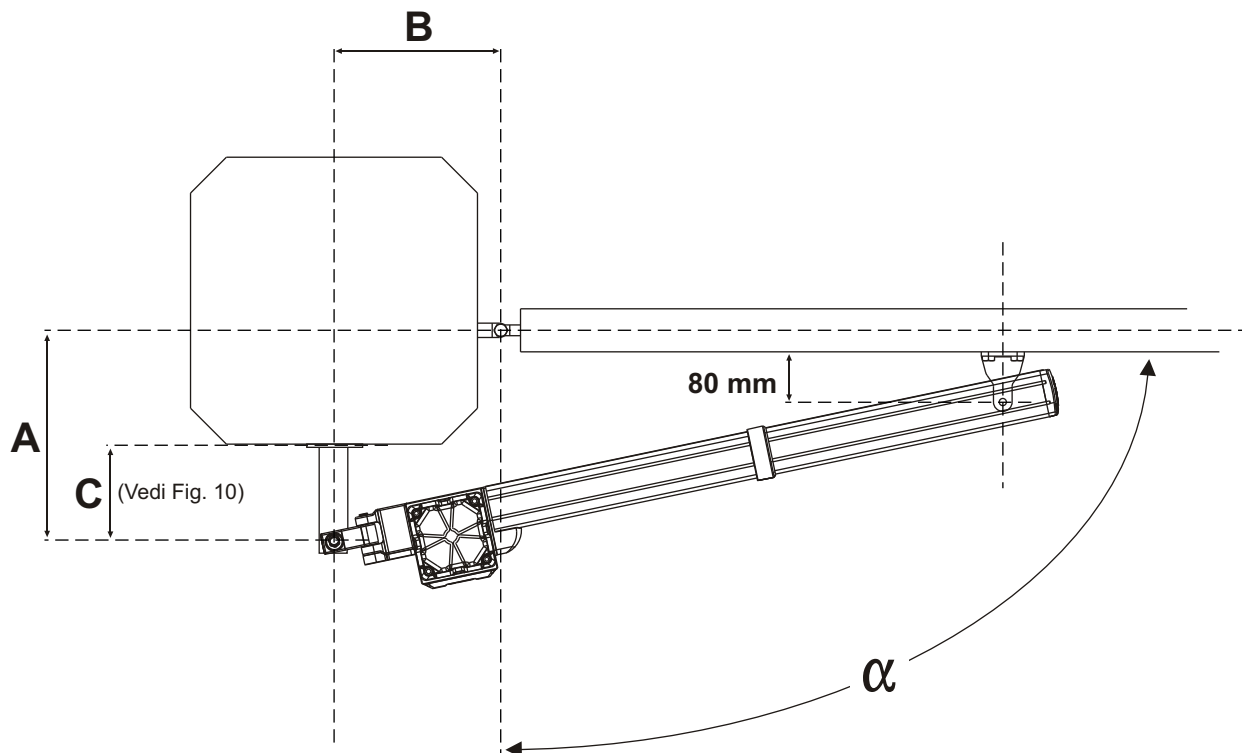

Fig. 8
2.2. Weld the back bracket to the plate (Fig 7) following the dimensions shown in Fig 8 and 9. If it is necessary, cut the bracket without going over the minimum limit of 60 mm (Fig 10).